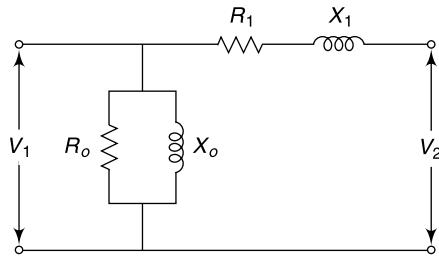

Fig. 8.19 Circuit diagram for Example 8.32
8.32 Calculate the values of R_o , X_o , R_1 and X_1 in the diagram shown in Fig. 8.19 of a single-phase 8 kVA, 22/440 V, 50 Hz transformer of which the following are the test results:
Figure 8.19 shows the equivalent resistance R_1 and reactance X_1 referred to the low voltage side or primary side.